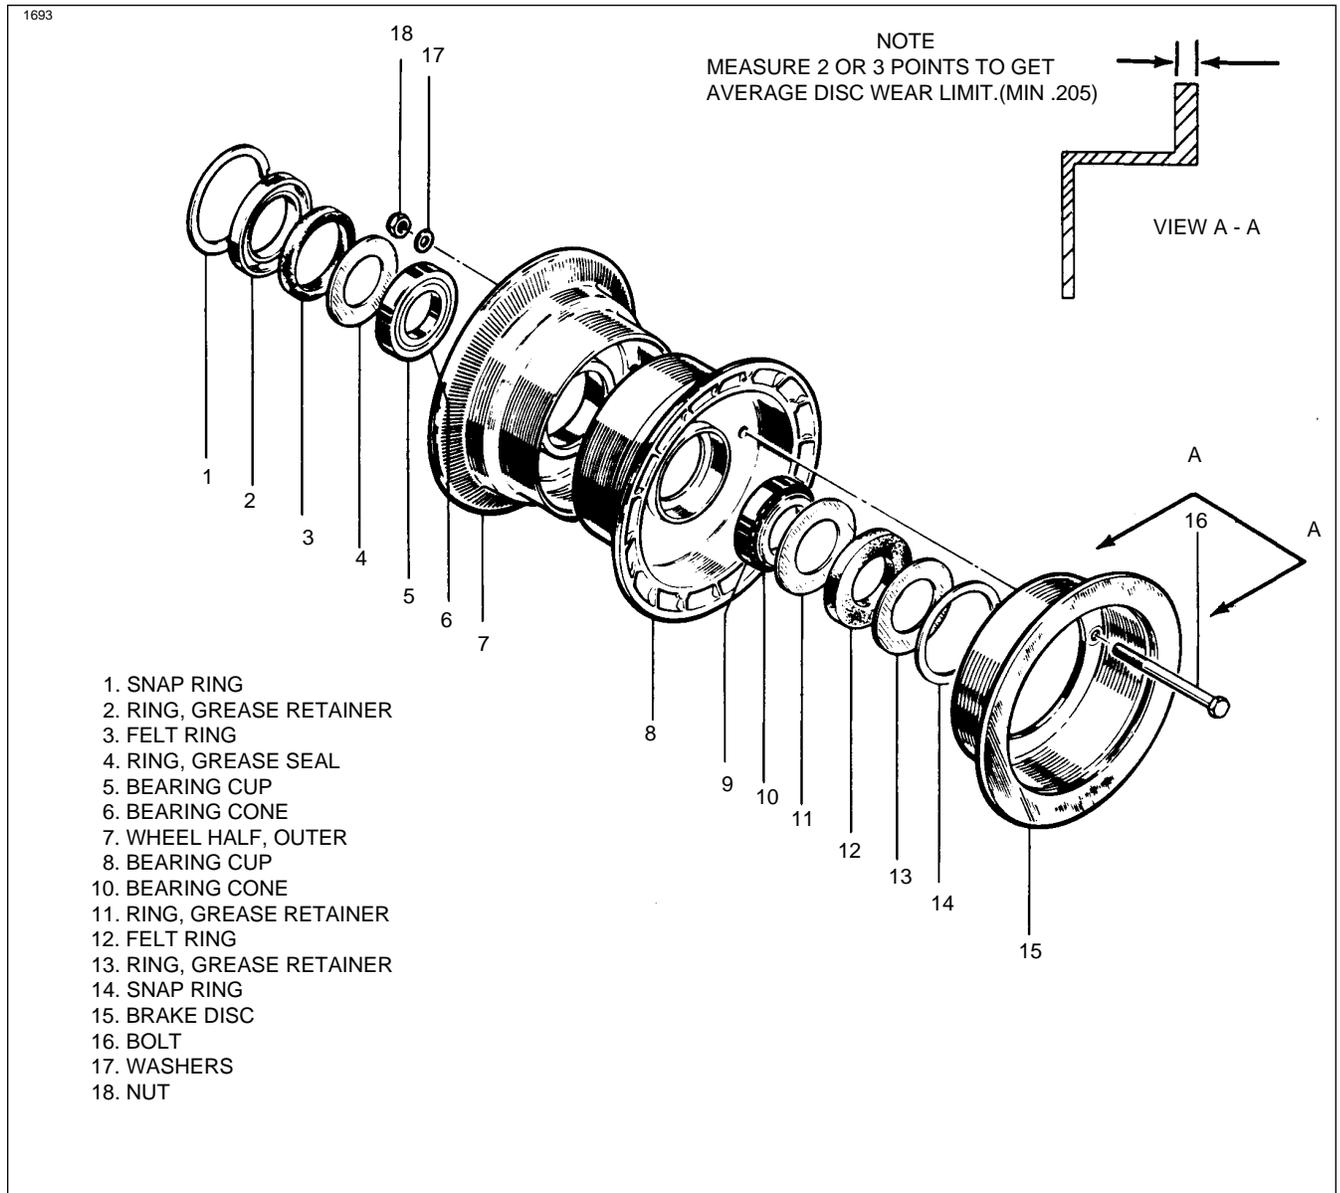

Figure 7-8 Main Wheel Assembly
**7-25 REMOVAL AND DISASSEMBLY OF MAIN WHEEL.** (Refer to Figure 7-8.)
- e. The wheel halves (7 and 8) may be separated by first deflating the tire. With the tire sufficiently deflated, remove the wheel through bolts (16). Pull the wheel halves from the tire by removing the inner half (8) from the tire first, and then the other half.
**7-27. ASSEMBLY AND INSTALLATION OF MAIN WHEEL.** (Refer to Figure 7-8.)
- a. Ascertain that the bearing cup (5 or 9) for each wheel is properly installed. Install the tire with tube on the outer wheel half (7) and then join the two wheel halves. Position the brake disc (15) in the inner wheel half and install the through bolts with the nuts on the valve stem side. Torque wheel nuts to 150 inch-pounds.